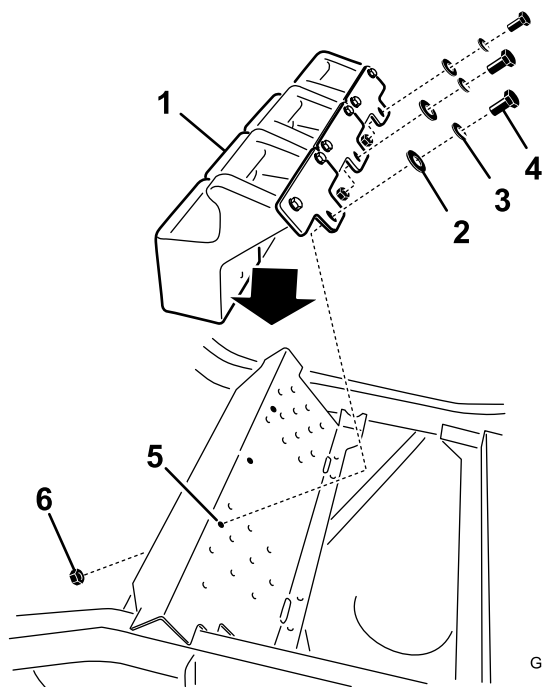

Figure 32
5. Install the front weights on top of the foot rest (Figure 32).